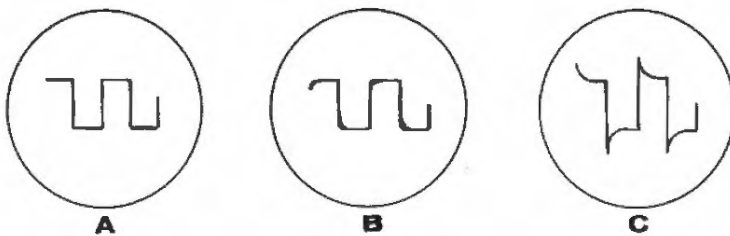
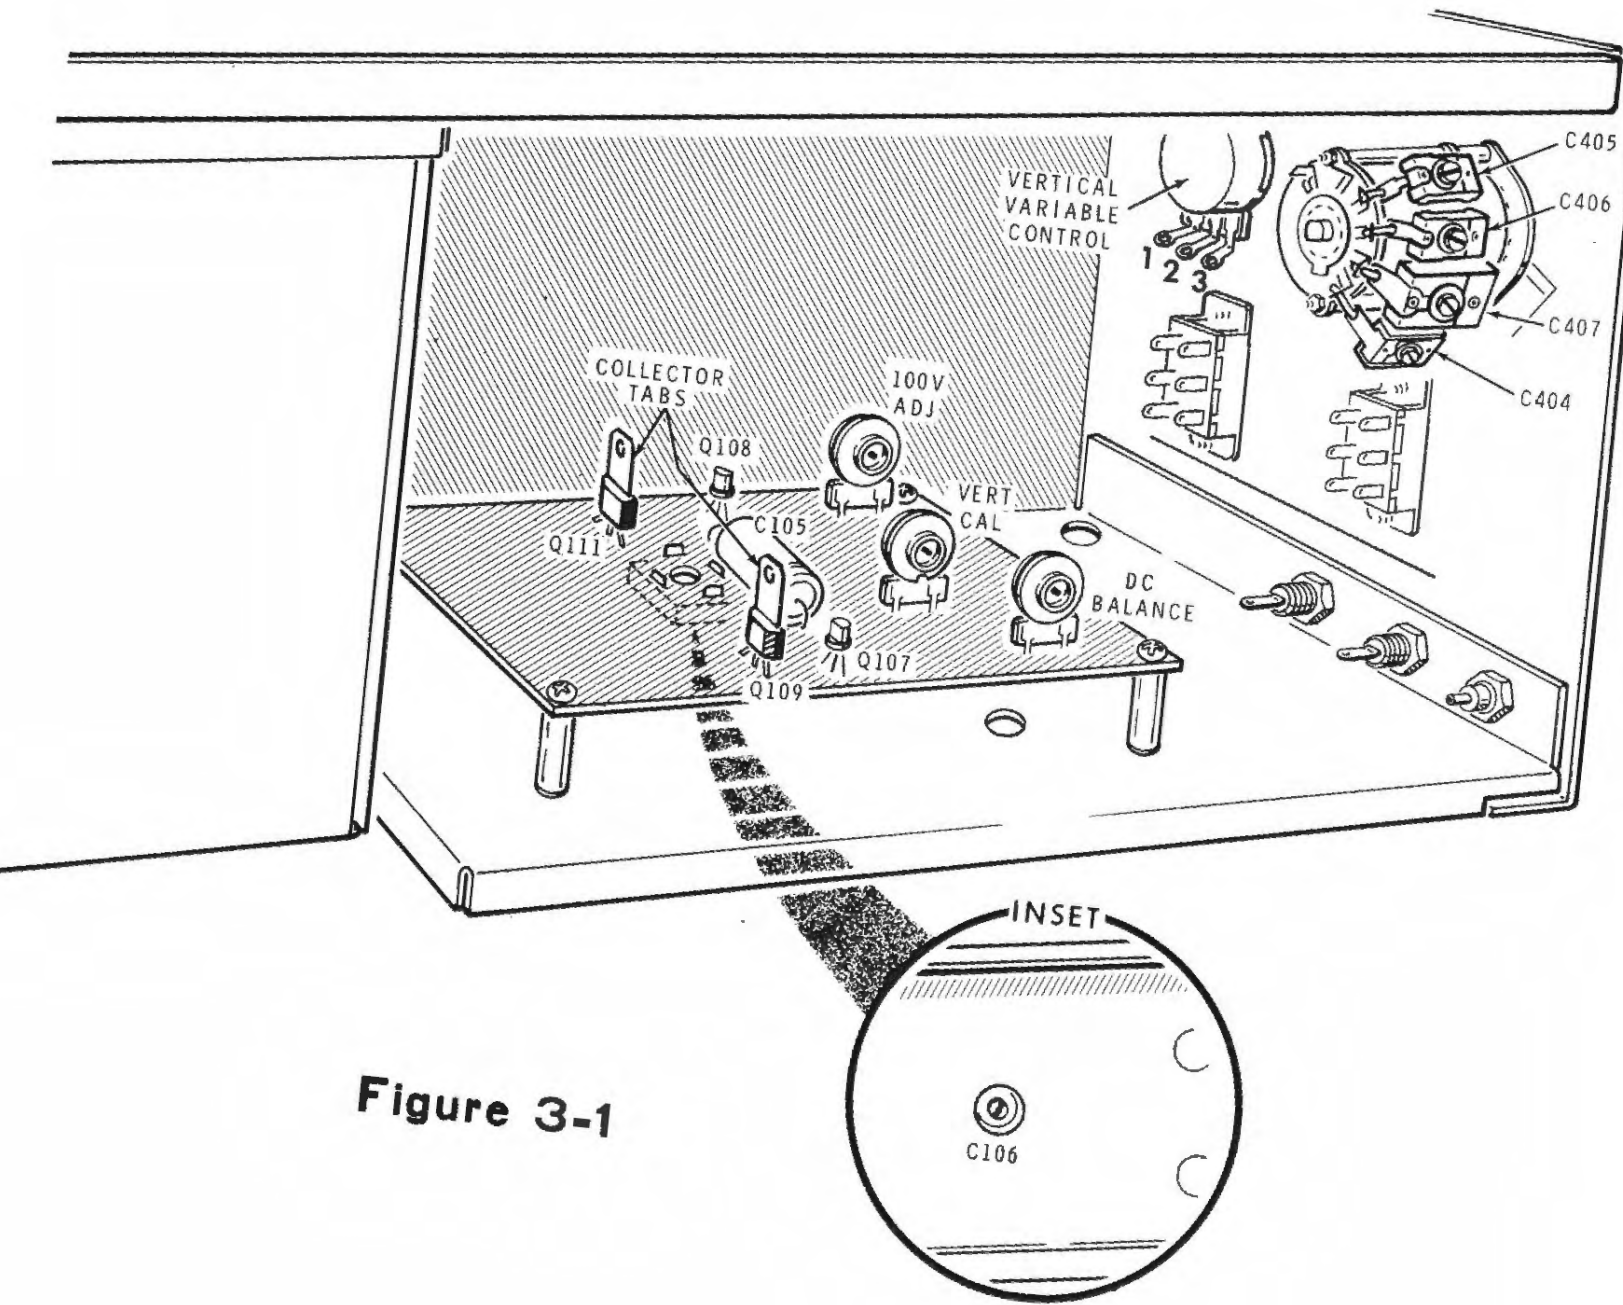

Figure 4-1
Figure 3-1
- () Adjust the output of the signal generator to provide a 100 kHz square wave signal to the vertical INPUT jack of the Oscilloscope. The signal on the CRT may resemble A, B, or C of Figure 4-1 at this time.
Figure 4-1 shows the conditions of the correct amount of circuit compensation, too little, and too much. After you make the following adjustments, the waveform should appear as shown in Part A of Figure 4-1.
- () Adjust trimmer capacitor C106 (Figure 3-1, fold-out from Page 3-53) on the vertical amplifier circuit board until the waveform appears as shown in Part A of Figure 4-1.
- () Adjust trimmer capacitor C405 until the waveform appears as shown in Part A of Figure 4-1.
- () Adjust trimmer capacitor C407 until the waveform appears as shown in Part A of Figure 4-1.
- () Adjust trimmer capacitor C406 until the waveform appears as shown in Part A of Figure 4-1.
- () Adjust the trimmer capacitor on the low capacity probe to produce a waveform as shown in Part A of Figure 4-1.
- () Adjust trimmer capacitor C404 to produce a waveform as shown in Part A of Figure 4-1.
- () Refer to Figure 3-1 and adjust the VERT CAL control for 3.3 cm of vertical deflection.